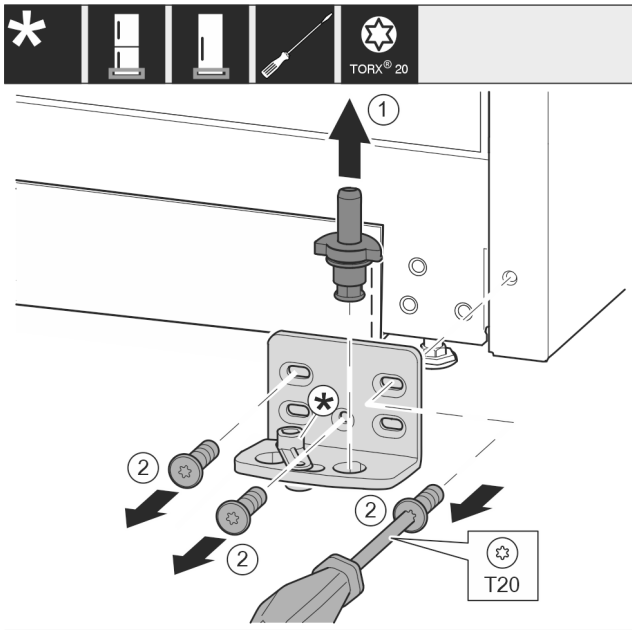

Fig. 44 \*
- ▶ Pull the bearing bolt Fig. 44 (1) out upwards completely.\*
- ▶ Use screwdriver to unscrew the screws Fig. 44 (2) and remove the swap bearing block.\*